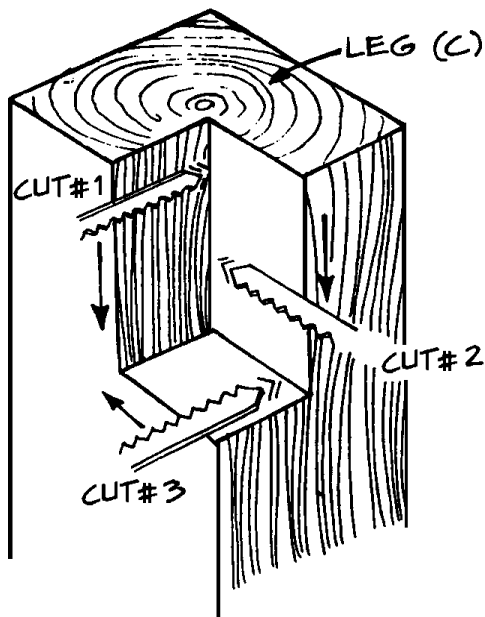

Figure 2
1. Cut each of the four newel posts to 14-1/2" long. These will be the legs (C). In order to support the side rails of the coffee table, we have to remove a corner section of the wood from the square top of each of the four legs. (C). This maneuver is designed to eliminate the need for making blind dados.
2. Set the depth of your saber saw to 1-3/4 inches. Make three cuts in the order shown in *Figure 2*. The blade edges in the drawing indicate the direction of the cuts. If you use a chisel instead, use the illustration to guide your cuts. Cut and remove a